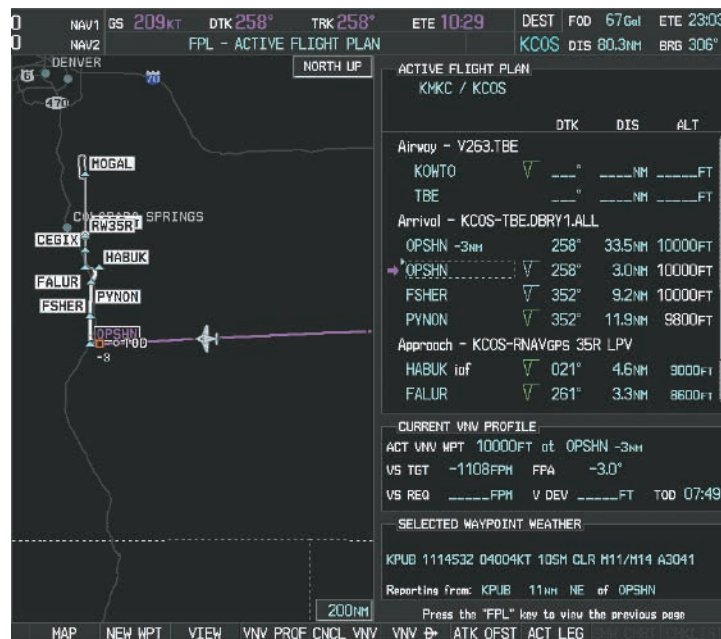

Figure 5-137 Adjusting the Descent
- Press the **VNV PROF** Softkey to place the cursor in the target vertical speed field (VS TGT) as shown in Figure 5-137.